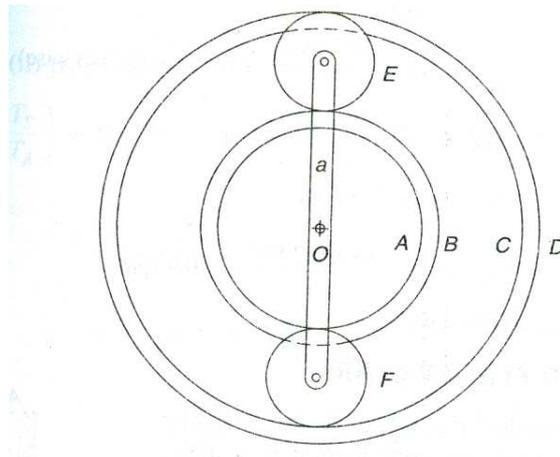

Fig. 2
24. In the epicyclic gear train shown in Fig.2, the compound wheels A and B as well as internal wheels C and B rotate independently about the axis O. The wheels E and F rotate on the pins fixed to arm α . All the wheels are of the same module. The number of teeth on the wheels are $T_A = 52$, $T_B = 56$, $T_E = T_F = 36$ CO₄ [K₃]